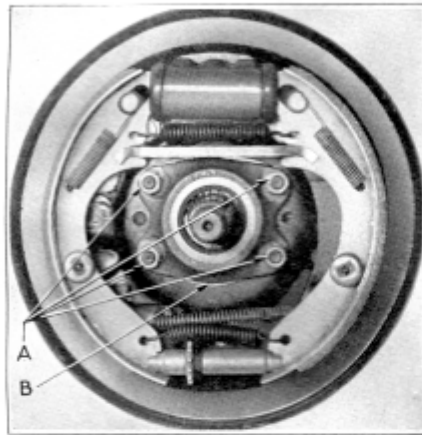

Figure 43
THE AXLE SHAFT END STRUCK A HEAVY BLOW, AS THIS WILL DAMAGE THE DIFFERENTIAL. Next remove four bearing cap nuts (A), Figure 43, and push the bolts out of the backing plate to permit removal of the bearing cap without disturbing the brake operating link.